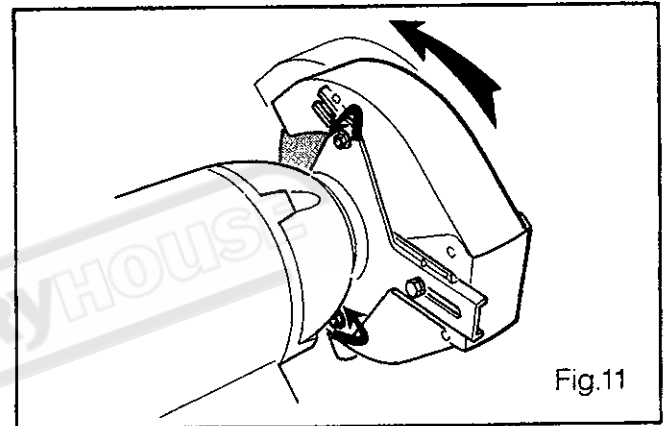

Fig.11
- 3 Loosen 2 screws of "T"-fixing plate to allow removing wheel covers as figure 11.